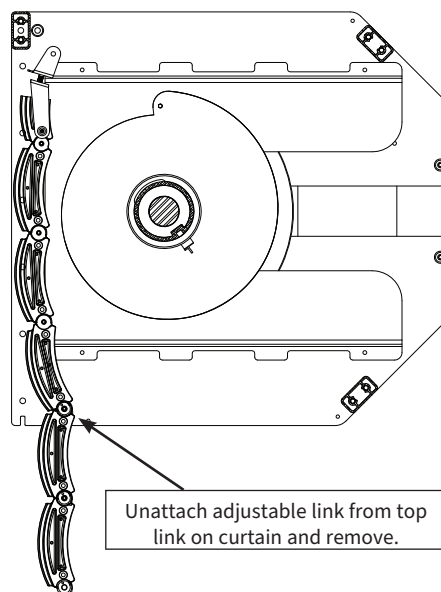

Figure 10: Remove Adjustable Link Assembly from Curtain
- 1 Remove the old adjustable link assembly, 24B0945NN (see Figure 10), from the curtain assembly.